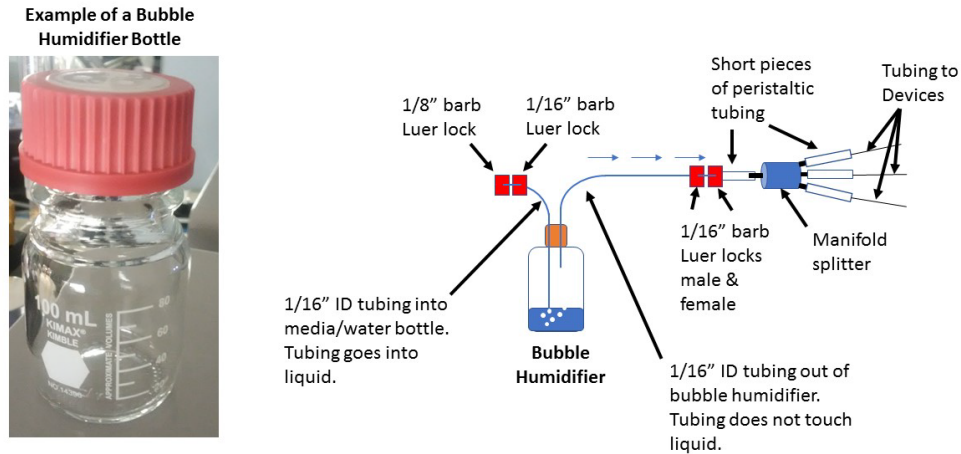

Figure 2. Illustration describing the bubble humidifier bottle and the parts needed to connect the bubble humidifier to the microfluidic devices.
5. Feed the tubing through the hole in the bottle cap and into the liquid. This tubing will act as the bubbler in the humidifier (**Figure 2**).
8. Feed the tubing through the hole in the bottle cap and into the bottle but not into the liquid (**Figure 2**). This tubing will act as the conduit for transferring humidified air into the microfluidic devices.
10. Connect the manifold splitter to the end of one of the 1/16" barb Luer locks using a short piece of peristaltic tubing (**Figure 2**).